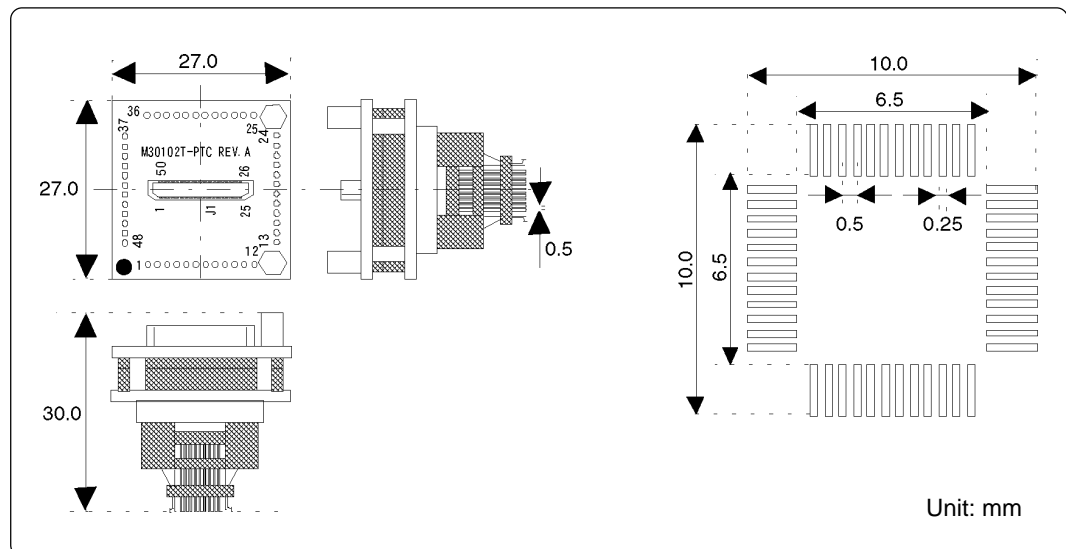

Figure 4 External dimensions of M30102T-PTC and sample foot pattern
6. External Dimensions of the M30102T-PTC and a Sample Foot Pattern (see Figure 4)